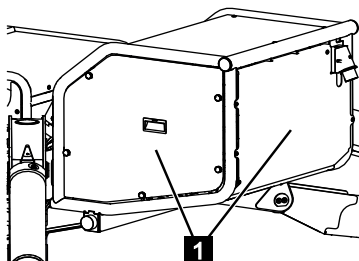

Fig. 196
3. Unscrew and remove the covers (Fig.196/1).